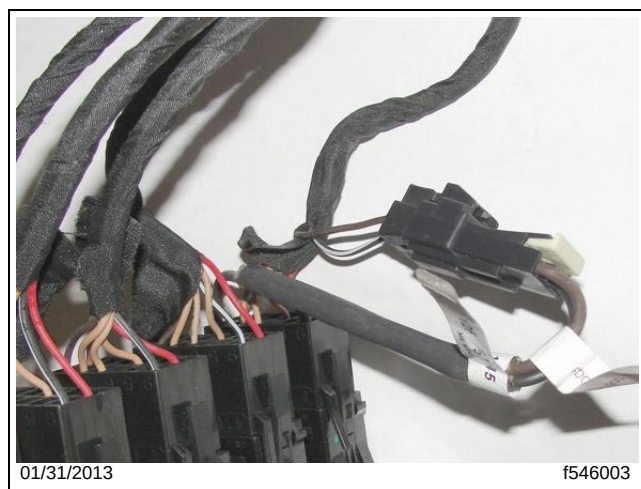

Fig. 9, Switch with Harness Connected to the Switch Hub Module Panel
12. Plug the removed switch back into the switch panel module. See **Fig. 9**.